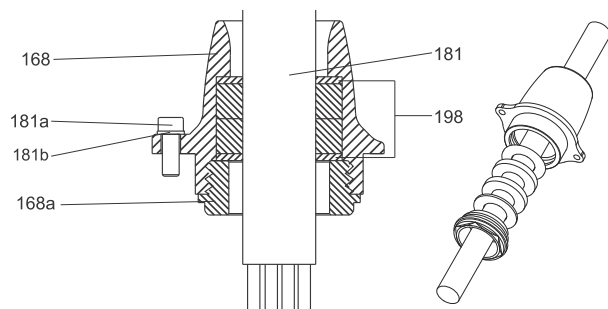

Fig. 38 Cable entry, power cable
3. Loosen and remove the screw (pos. 181a). See fig. 38.
Power cable, see fig. 38